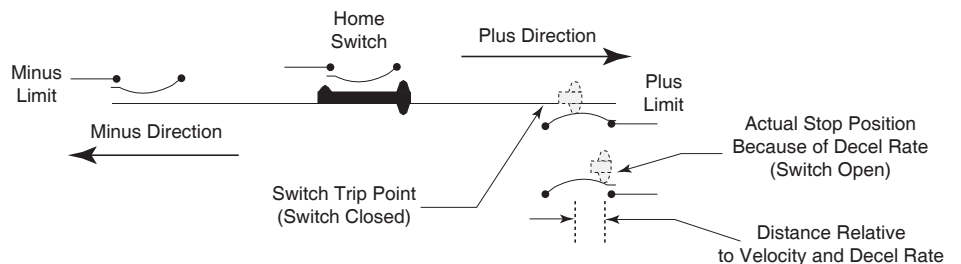

Figure 5.2 Limit modes of operation
Modes	<p>1 Normal Limit function with a decel ramp. The I/O must be set for Limits (S1-S4, S9-S12 Command). If the limit switch in the direction of travel is reached, the motion will decel to a stop. That is, the plus limit works only in the plus direction of travel and the minus limit works only in the minus direction of travel. In Figure 5.2, the Limit is activated at a given position but because of the deceleration rate the motion continues for the duration of the deceleration time. This position may be beyond the trip point of the limit and a subsequent move in the same direction will not stop. A crash may be imminent. If the limit is activated and maintained the software will allow motion only in the opposite direction. If Homing (HM) is active and a limit is reached, the motion will decel to a stop and then reverse direction and seek the Homing Switch. If the Homing Switch is not activated on the reverse and the opposite limit is reached all motion will stop with a decel ramp. (See HM)</p> <p>2 A Limit stops all motion with a deceleration ramp but no Homing.</p> <p>3 A Limit will stop all motion with a deceleration ramp and stop program execution.</p> <p>4 Functions as LM=1 but with no deceleration ramp</p> <p>5 Functions as LM=2 but with no deceleration ramp.</p> <p>6 Functions as LM=3 but with no deceleration ramp.</p>